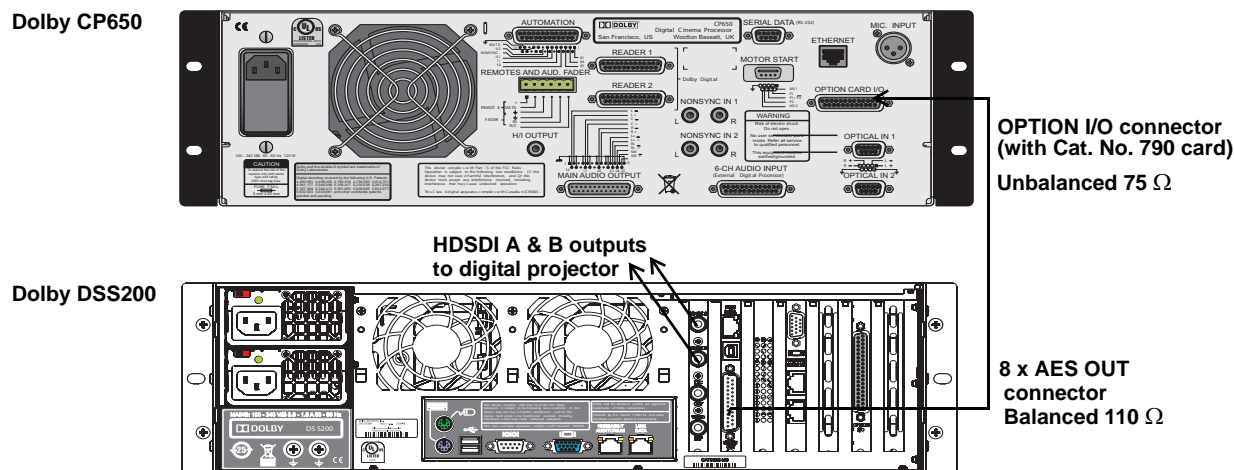

Figure 3-11 Connecting the DSS200 A/V Outputs (CP650 Configuration)
- Connect the DSS200's **8 x AES OUT** connector to the CP650 **OPTION CARD I/O** connector (with Cat. No. 790) using the special cable (supplied with the optional Cat. No. 899-DSS200/650 installation kit), as shown in Figure 3-11. The Dolby Part Number for this cable is 8309370.